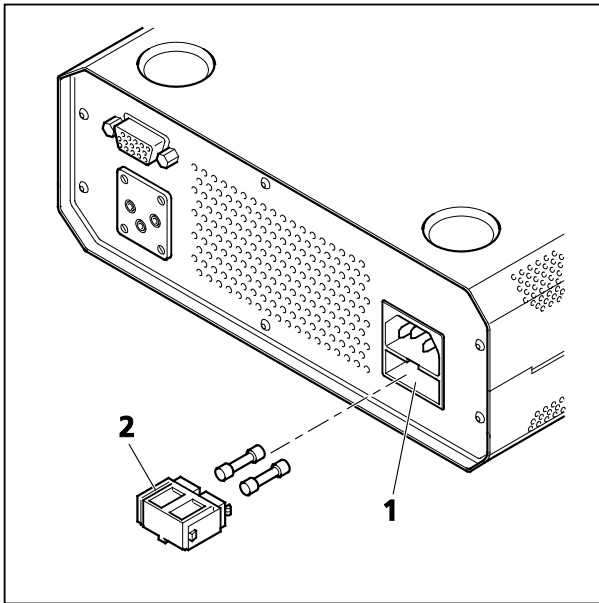

Fig. 214 Changing fuses on the power supply
- Pull out fuse holder (Fig. 214/2) forward. Use a small screwdriver, if necessary.
- Push the fuse holder back into the fuse compartment (Fig. 214/1) as far as it will go.